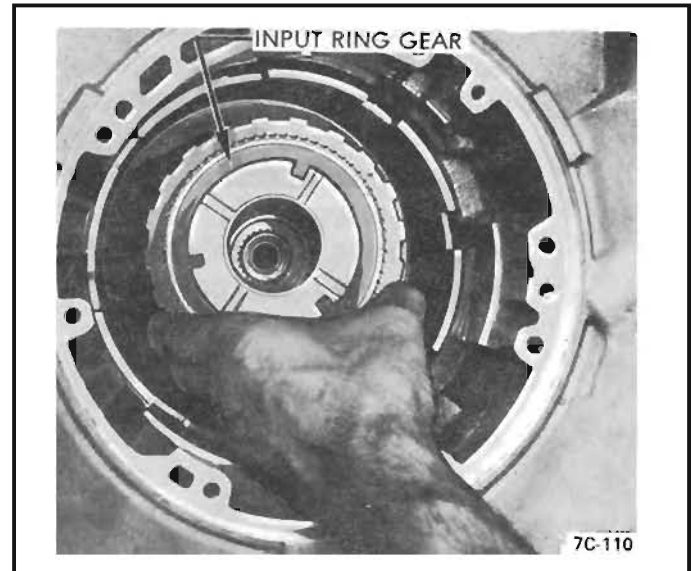

Figure 33 Input Ring Gear Removal
2. Remove input ring gear. *See Figure 33.*